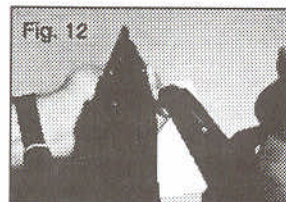

Fig. 12
- 4) Fig 12: Pull the bolt handle all the way back and out of the receiver. Check the barrel for damage and blockage after removal of the bolt